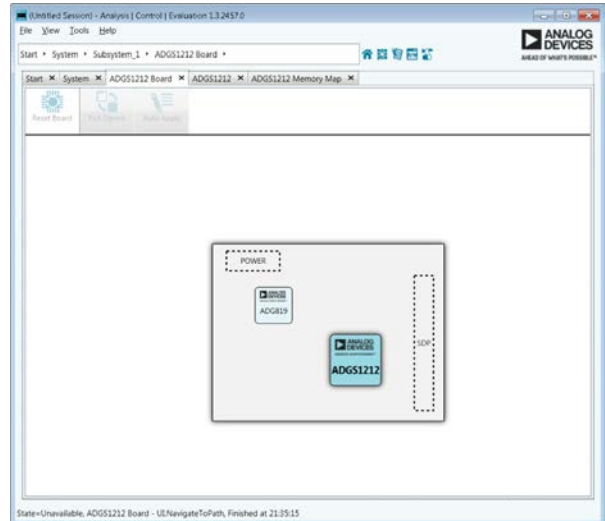
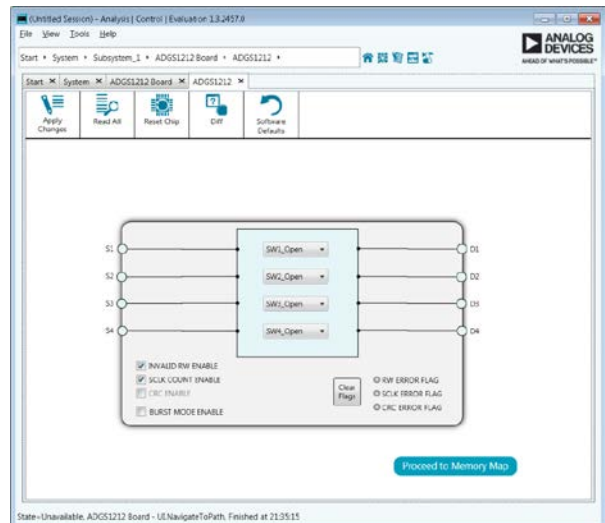

Figure 2. Evaluation Board View of the EVAL-ADGS1212SDZ
Figure 3. Chip Block Diagram View for the ADGS1212
4. Double click on the **ADGS1212SDZ Board** plug in to open the evaluation board view shown in Figure 2.
5. Double click the **ADGS1212** icon in Figure 2 to access the chip block diagram. Figure 3 shows the basic functionality and main functions of the EVAL-ADGS1212SDZ evaluation board.